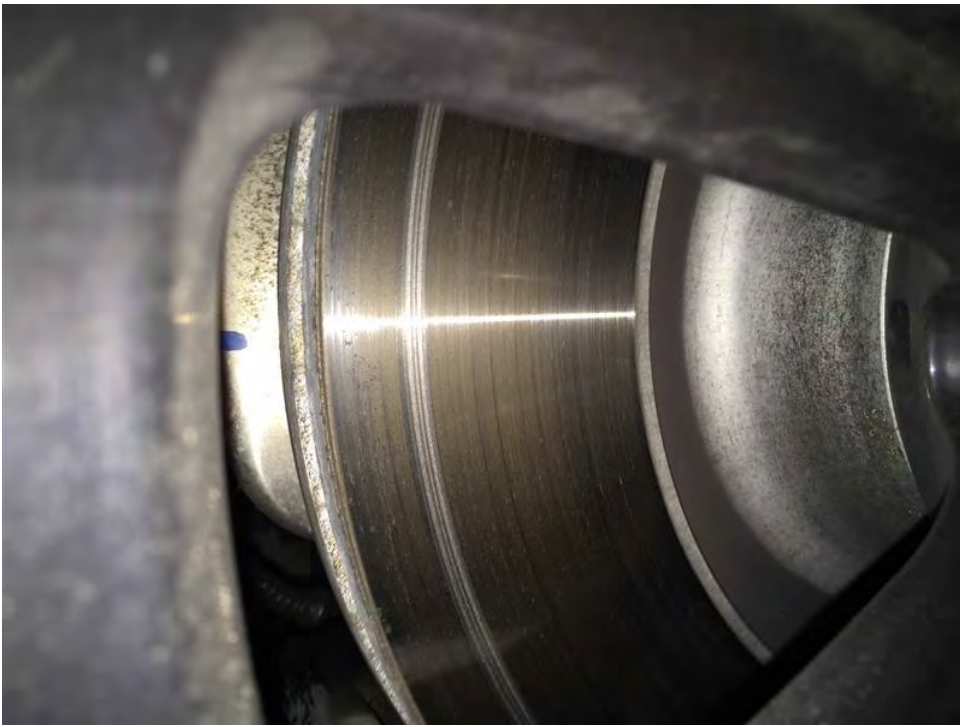

Figure 2
6. Discs have a groove in them (Figure 2)